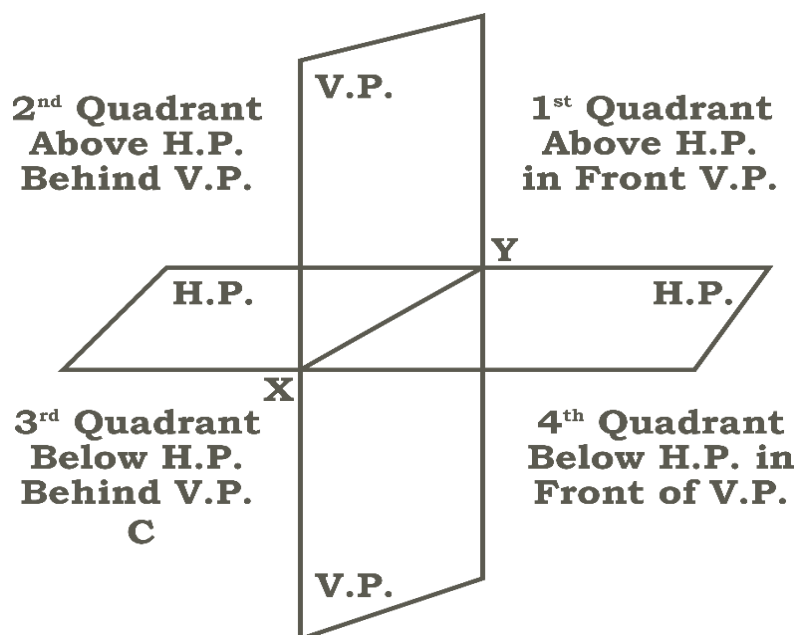

Fig. 2.18: Third Quadrant
A point (C) below HP and behind VP (3rd Quadrant)- Refer Fig. 2.18: